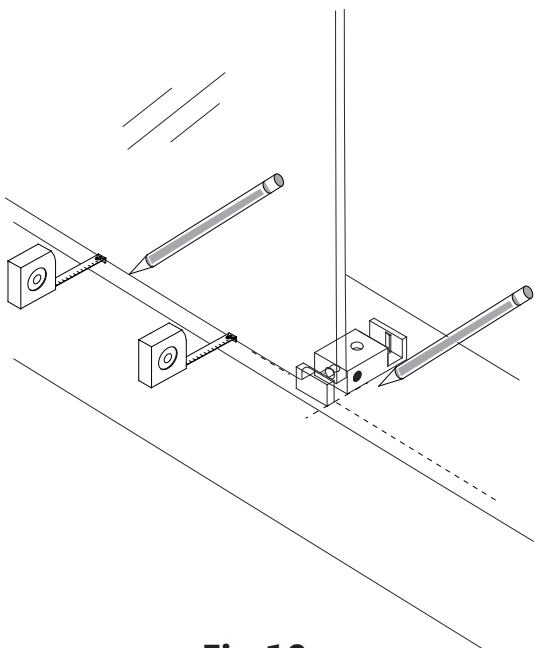
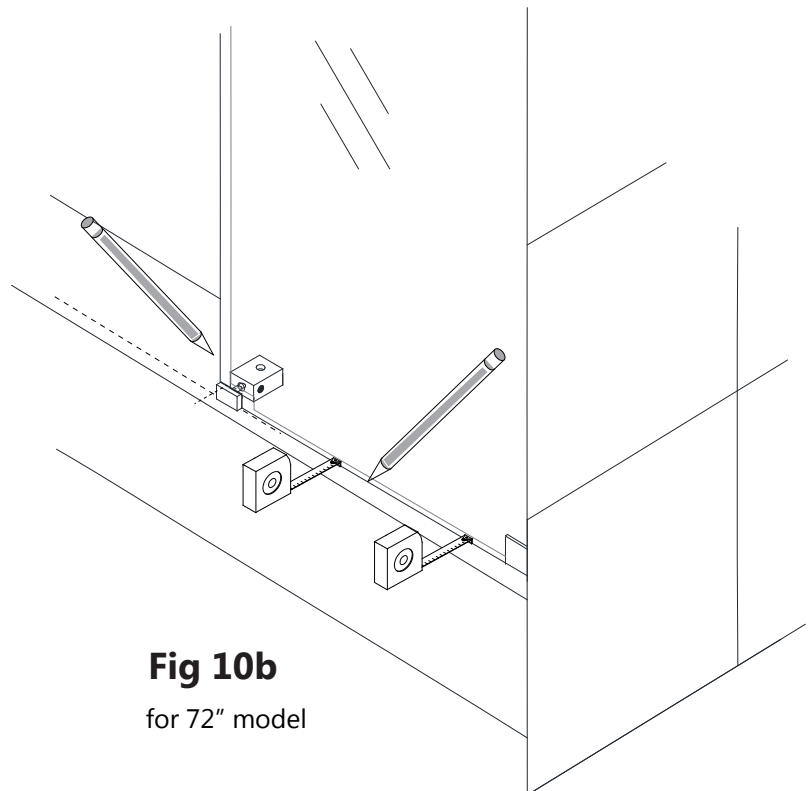

Fig 10a
Fig 10b
9. Make sure that the **Stationary Glass (#02)** is parallel to the front edge of the threshold and mark it. Slide the **Guide Block (#12)** into the notch of the **Stationary Glass (#02)**, and align flush with the edge (Fig 10a). Mark its position and also mark the hole for drilling using a pencil (or center punch.)
Note: If installing the **72" model**, also position the **Small Stationary Glass Bottom Bracket (#22)** with the edge of the **Small Stationary Glass (#23)** (Fig 10b) and mark its position and the hole for drilling. **(Fig 10a and 10b)**